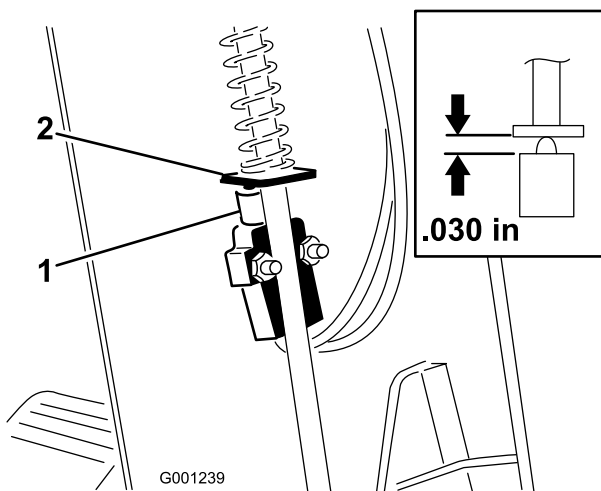

Figure 61
3. Slide the cover up the steering shaft to expose the parking brake switch (Figure 61).
5. Align the parking brake rod paddle with the switch plunger (Figure 61)
6. Press down on the parking brake rod and push up on the switch until the compressed length of the switch plunger is 0.030 inches (Figure 61, inset) . This is the distance between the brake rod paddle and the switch plunger housing.